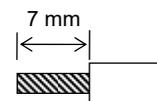

Figure 15. Wire sheath strip length
- Strip the wire sheath. Strip length is 7 mm. (See Fig. 15.)
- Strip the wire sheath. Strip length is 8 mm. (See Fig. 15.)